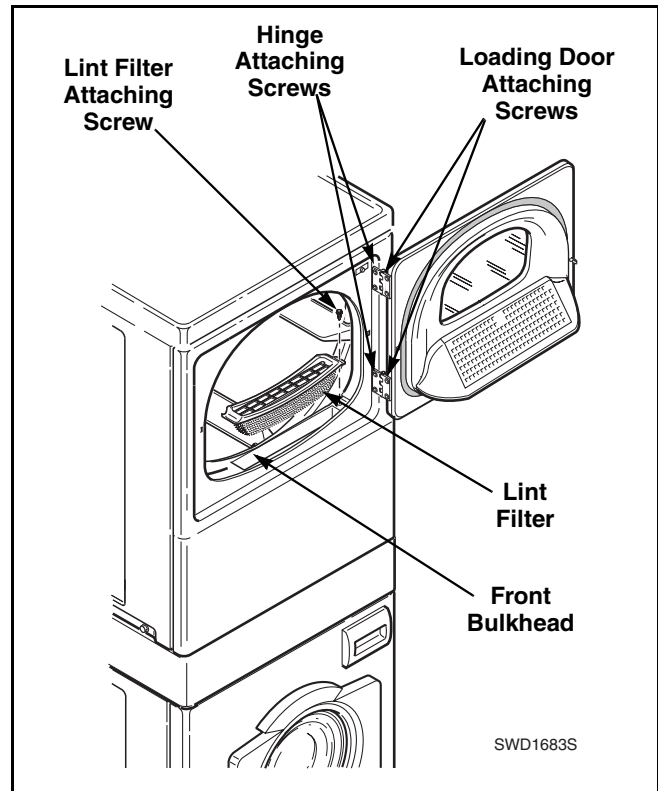

Figure 31
- a. Open loading door and remove screw from end of lint filter. Refer to *Figure 31*
- b. Remove screws holding loading door to hinges. Refer to *Figure 31*.
- a. Remove four screws holding door assembly to hinges. Refer to *Figure 31*.